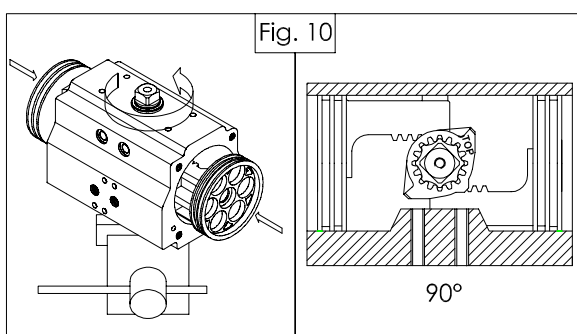
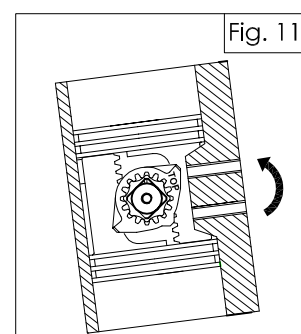

Fig. 10
Fig. 11
- For standard rotation assembly (clockwise to close) rotate the body (06) about 0-90° counter-clockwise from bottom view or clockwise from top view depending on which way the shaft has been linked as shown in figure 10.
- Press the two pistons (07) simultaneously inside the body (06) until the pistons are engaged and rotate the body clockwise from bottom view or counter clockwise from top view until the stroke is completed.
- Ensure that when the pistons are inserted that they both mesh at the same time. Check fully closed and open positions as shown in figure 11.